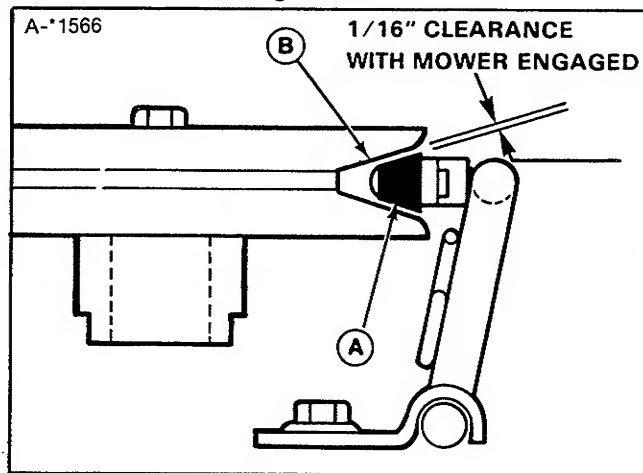

Figure 39.
4. Inspect the brake pad (A, figure 39) to V-pulley (B) clearance. With PTO engaged, clearance should be 1/16 inch as shown in figure 39.